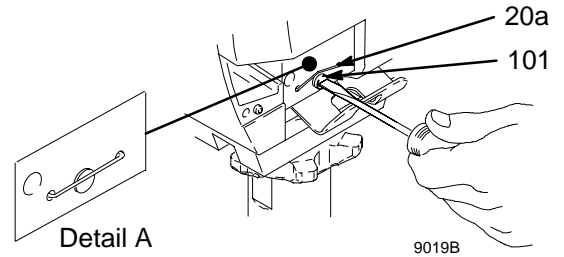

Fig. 17
If pin works loose, parts could break off due to force of pumping action. Parts could project through the air and result in serious injury or property damage. Make sure pin (101) and retaining clip (20a) are properly installed. See Detail A. Fig. 17.
5. Fig. 17. Use screwdriver to push out pump pin (101).
2. Fig. 17. See Detail A. Push pin (101) into hole until retaining clip (20a) snaps over pin.
1. Remove pump (28).
2. Remove two bolts (86), washers (25), pump bracket (85), pail hook (94) and shield (95).
3. Fig. 17. Remove clip (230).
1. Fig. 17. Install clip (230).
2. Install shield (95), pail hook (94) and pump bracket (85) with two washers (25) and bolts (86). Torque bolts to 40 ft-lb (54 N•m).
3. Install pump (28).